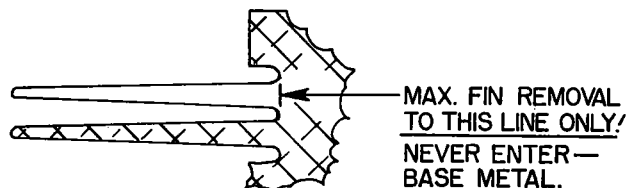

Figure 6-10. Maximum Fin Removal
- Maximum removal is in accordance with figure 6-10.